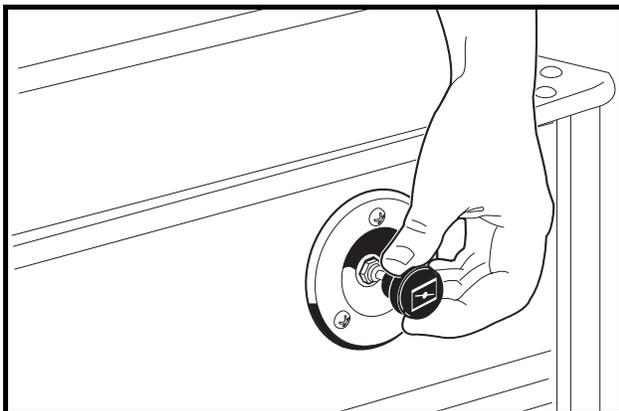

Figure 11 Cable Choke
- Pull out the choke cable. Hold choke cable out during start-up and release it after the engine starts and runs smoothly (**Figure 11**).